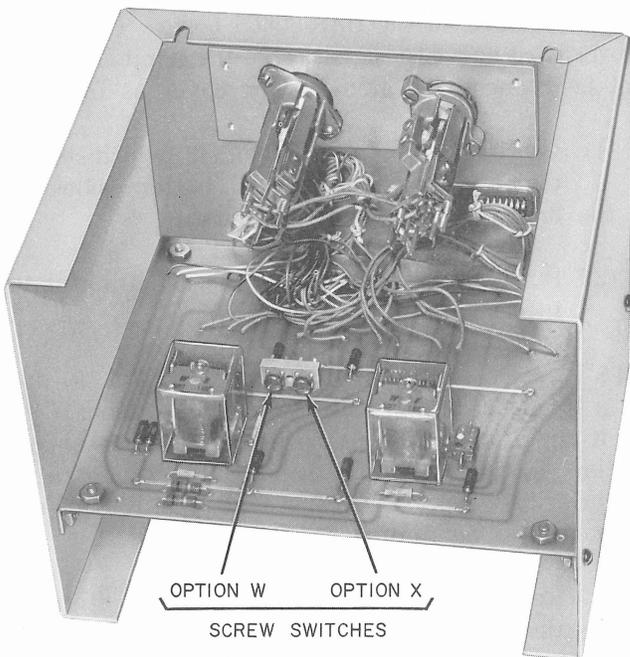

Fig. 9—Data Auxiliary Set 806C1 Cover—Rear View
2.15 Verify that the screw switches (Fig. 9) are properly conditioned to provide option W or X, if required by service order and/or worksheet. Option W causes all positive polling responses to be priority. Option X causes all positive polling responses to be routine.